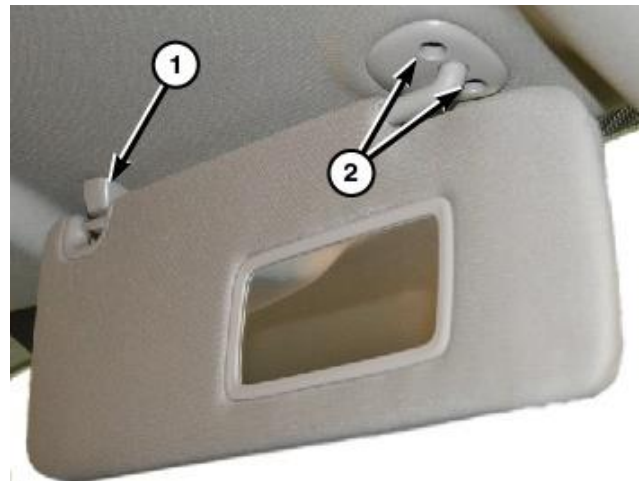

Figure 21 – Visors
3. Separate the visor from the support (1) then remove the screw and remove the visor support (Figure 21).
4. Remove the visor screws (2) then remove the visor (Figure 21).